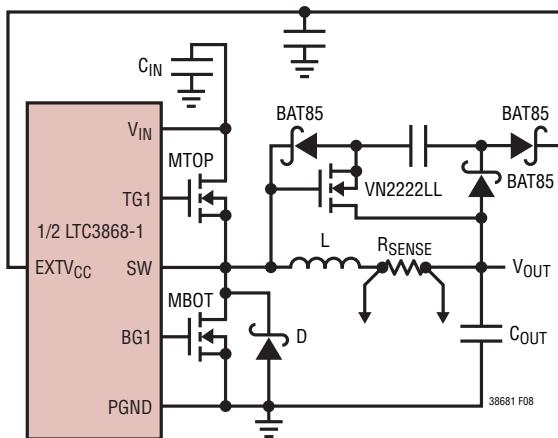

Figure 8. Capacitive Charge Pump for  $\text{EXTV}_{\text{CC}}$
4.  $\text{EXTV}_{\text{CC}}$  Connected to an Output-Derived Boost Network. For 3.3V and other low voltage regulators, efficiency gains can still be realized by connecting  $\text{EXTV}_{\text{CC}}$  to an output-derived voltage that has been boosted to greater than 4.7V. This can be done with the capacitive charge pump shown in Figure 8. Ensure that  $\text{EXTV}_{\text{CC}} < V_{\text{IN}}$ .